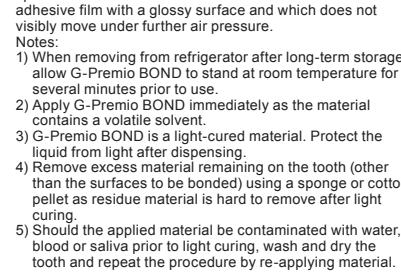

Fig. 1
a) Bottle-type: Prior to dispensing, shake the bottle with each cap release buttons on the neck of the bottle at the same time, as illustrated in Figure 1. Dispense a few drops more for a clean dispensing dish. Close the cap immediately.
1) If the cap detaches from the bottle, it may be reattached by resealing the cap on the hinge pins, as shown in Figure 1.
c) Application: Prior to dispensing, shake the bottle with each cap release buttons on the neck of the bottle at the same time, as illustrated in Figure 1. Dispense a few drops more for a clean dispensing dish. Close the cap immediately.